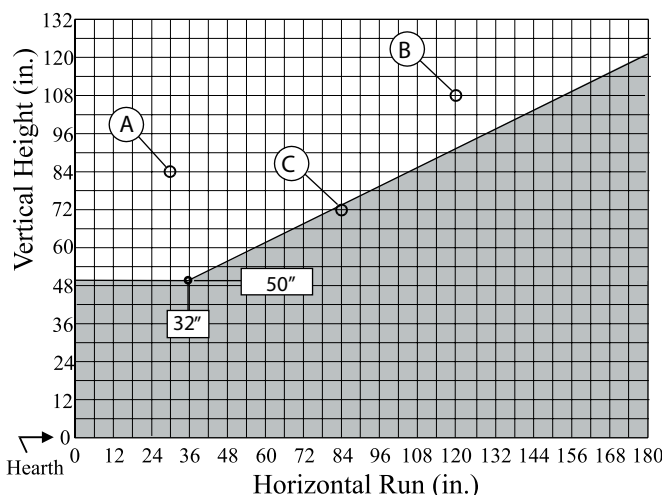

Figure 20. B-Series DV-2 Multi-Elbow Venting Graph.
- your vent run must fall within the limits set by **Figure 20**.
Measure the vertical height from the fireplace hearth to the centre of the termination and the horizontal run from the fireplace flue collar to the wall flange of the termination. Plot on the Venting Graph (**Fig. 20**) with an 'X'.
Venting runs *must* fall within the limits set by the venting graph (see **Figure 20**).